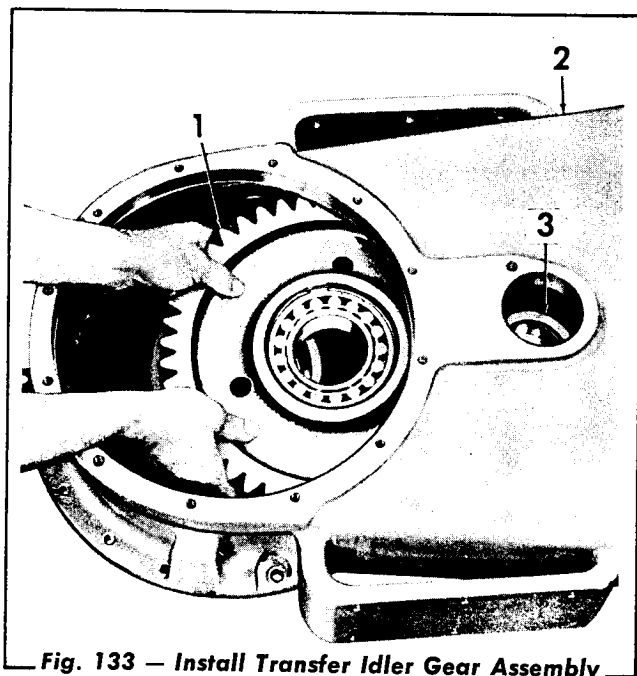

Fig. 133 — Install Transfer Idler Gear Assembly
4. Install the transfer idler gear assembly (Fig. 133) into the housing. Align the gear and the spacer with the spindle bore in the housing. Chill the transfer idler gear spindle in dry ice for one hour.